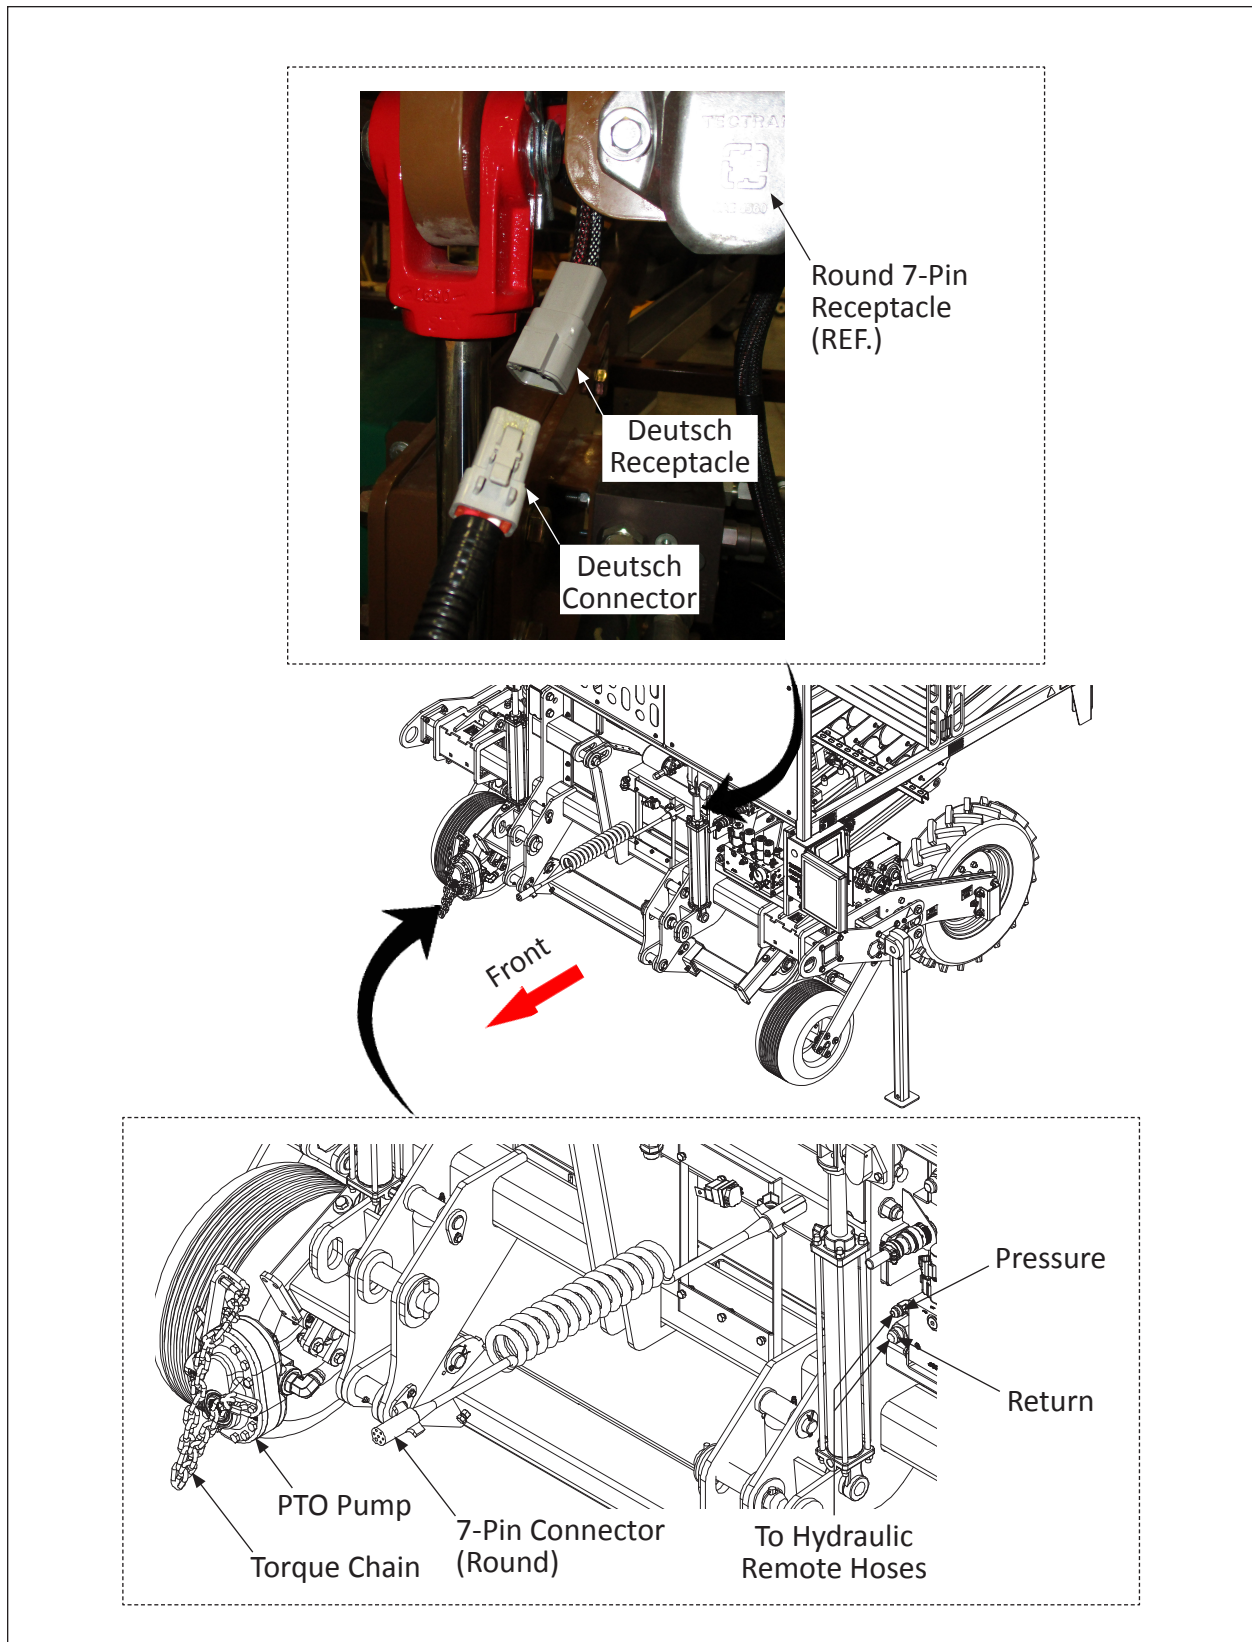

Fig. 15 Tractor Connections
- A cable for direct battery power is supplied with each planter. The red and black labeled ring terminals are to be connected to the tractor battery, and a Deutsch connector for the planter receptacle at the opposite end to the cable. See Fig. 18 below for wire details, and refer to Fig. 15 on page 21 for connection.